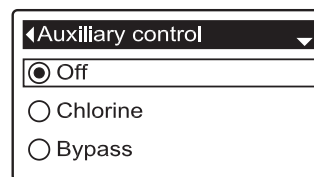

FIG. 74
7. Press the SELECT (O) button to display the Auxiliary control menu (See Figure 74).
8. If the desired option already has a black dot next to it (See Figure 74), go to Step 9. Otherwise, press the DOWN (▼) or UP (▲) buttons to scroll to the desired option, then press SELECT (O) to choose it.